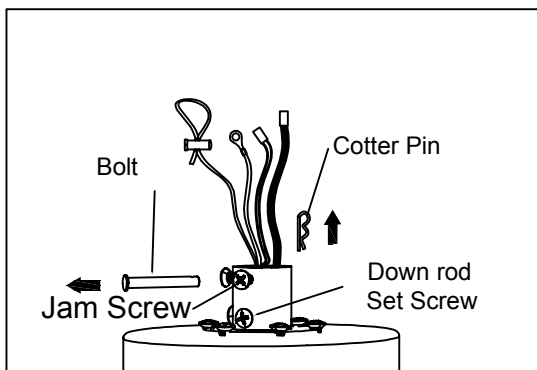

Figure 1.1
- Take out the motor assembly and pull out the pin and cotter pin , Loosen the two set screws in the down rod support of the motor assembly.(Figure 1.1)